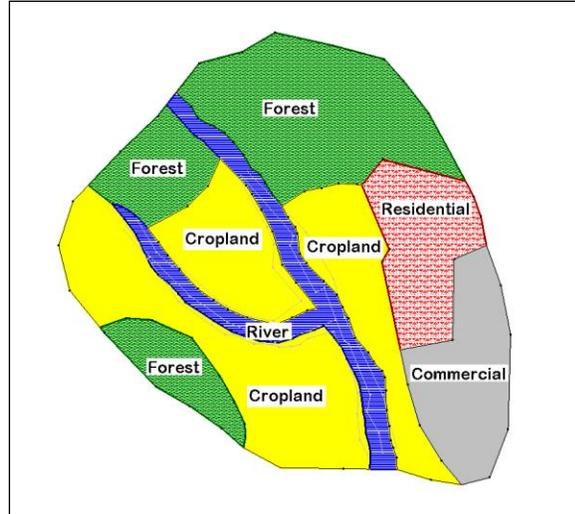

Figure 2 Materials used in HEC-RAS simulation
7. Double-click on the polygon that defines the river area (see Figure 2) to open the *Land Poly Atts* dialog.